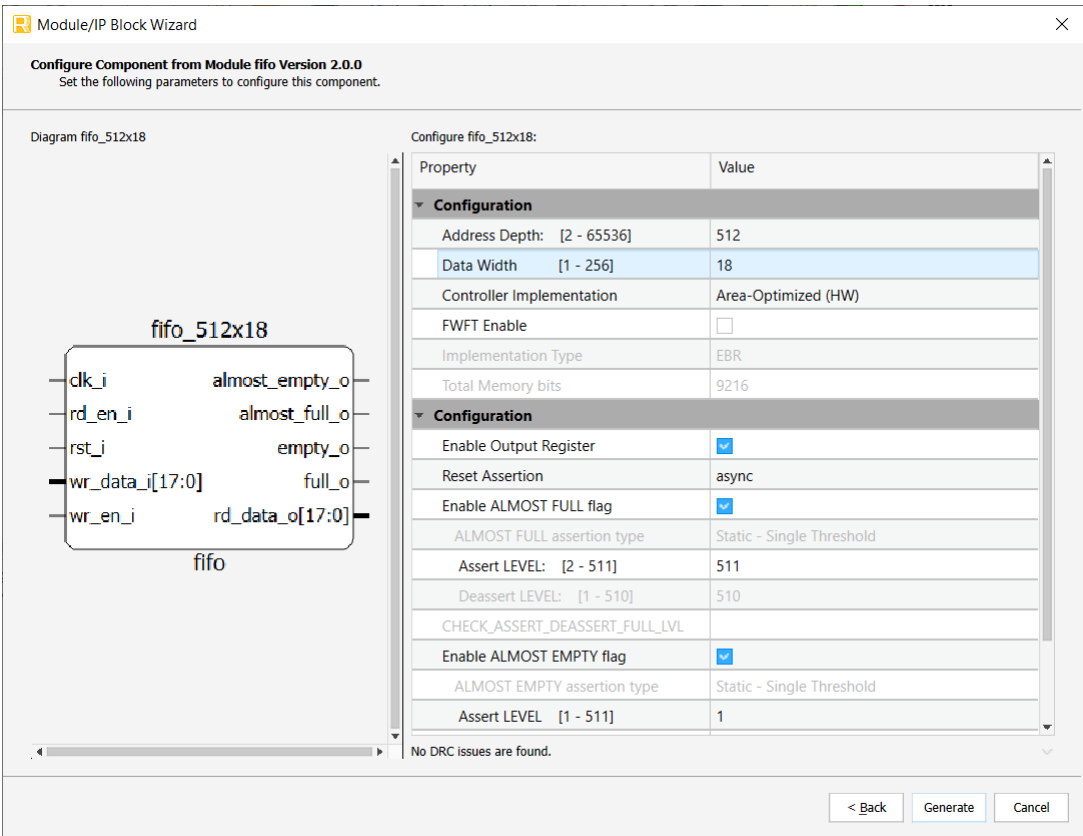

Figure 3.3. Example: Generating FIFO Module Customization
3. In the module's dialog box of the **Module/IP Block Wizard** window, customize the FIFO Single Clock using drop-down menus and check boxes as shown in Figure 3.3.